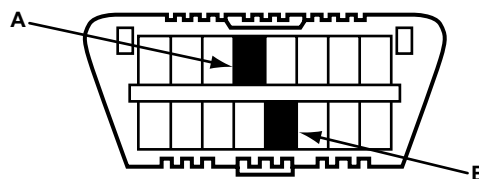

Figure 16-17 DLC3
2. Connect DLC3 terminal Tc to terminal CG (Figure 16-17).
1. Connect a jump wire between terminals Tc and CG of the DLC3 (Figure 16-17).
2. Connect a jumper wire between terminals #4 and #13 of the DLC3 (16 pin OBD-11) (Figure 16-17 on page 236).